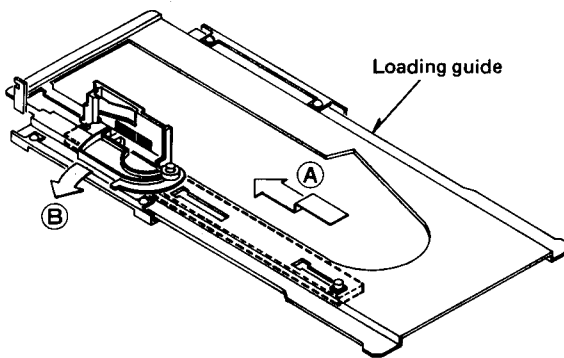

Fig. 14
2. Move the drive rack in the direction of arrow A while opening the switch arm in the direction of arrow B, and then pull out the drive rack downward. (Fig. 14)